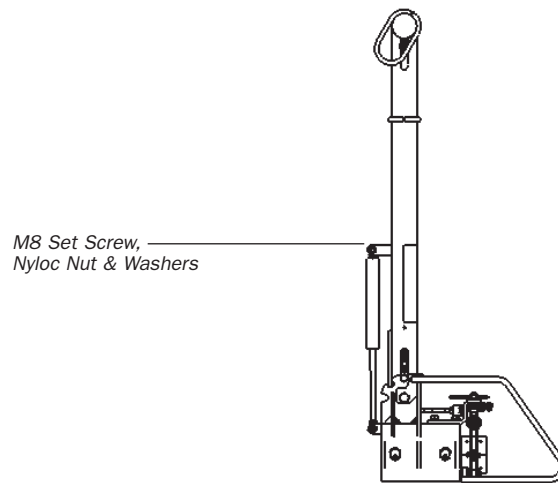

Figure 9.4.3.1 TRAM in the upright or vertical position
2. Remove the M8 Set Screw, M8 Nyloc Nut and M8 Washers from the upper end of the Gas Spring. See Figure 9.4.3.1.